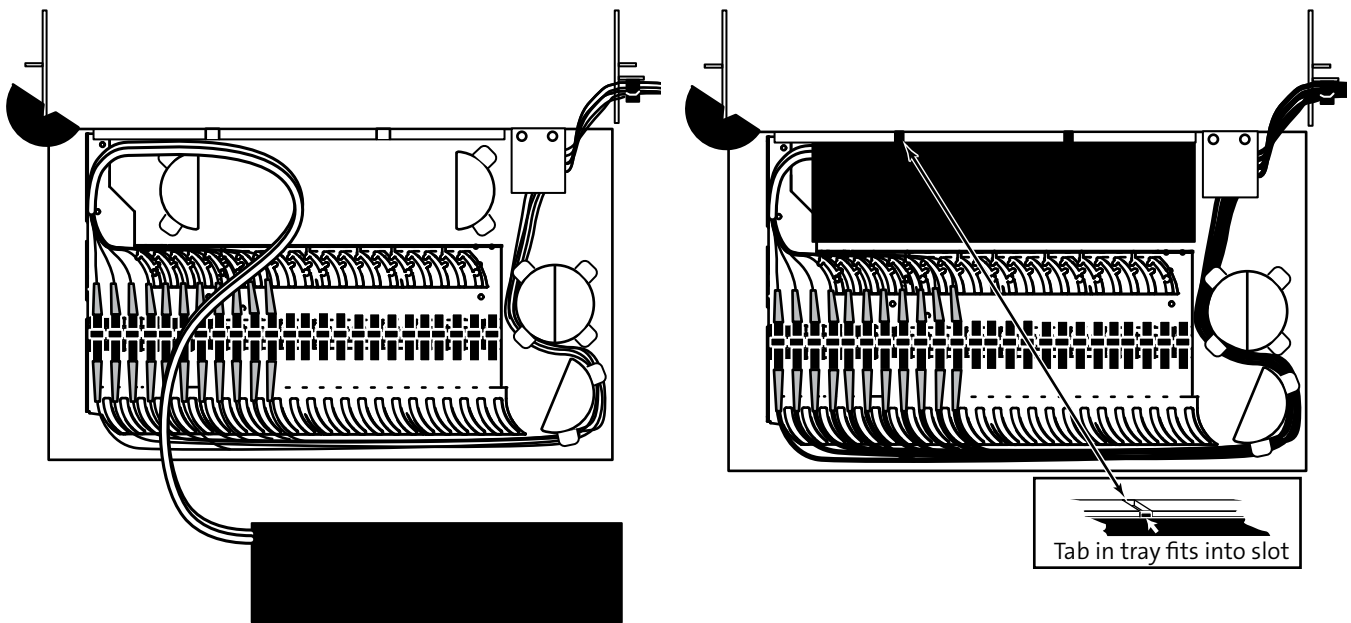

Figure 17
- Step 1:** Bring both pigtails and buffered fibers to a convenient splicing area - one pair at a time (Figure 17). Strain-relieve buffer tubes and pigtails into the splice tray as described in instructions packaged with the splice tray you are using.